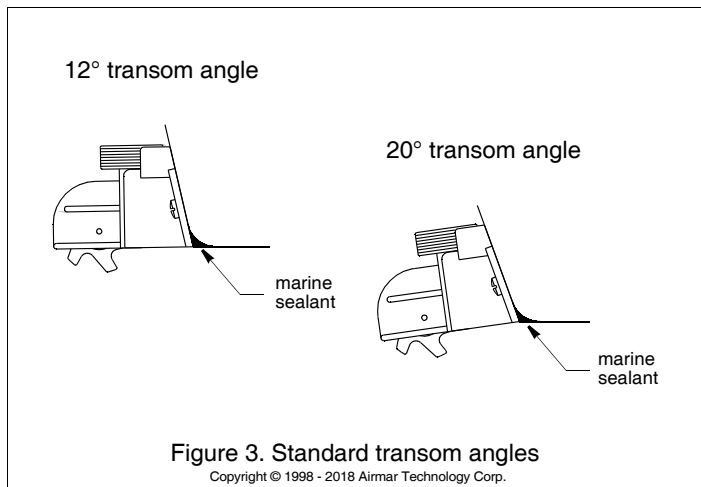
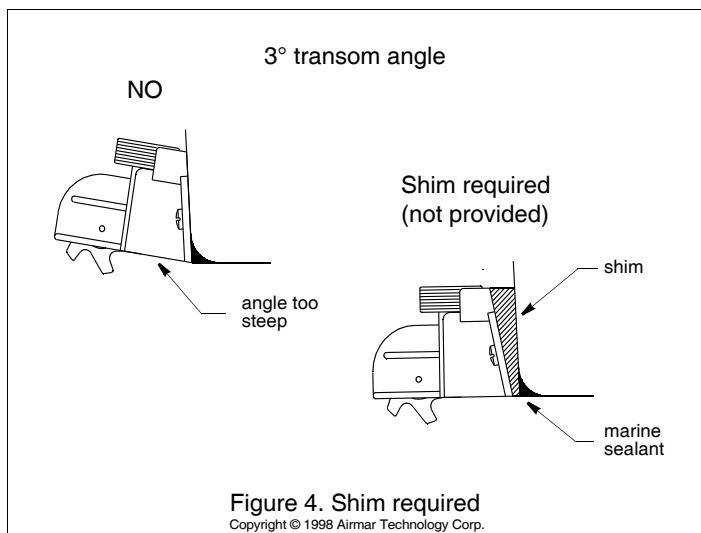

Figure 3. Standard transom angles
Figure 4. Shim required
5. The bracket is designed for a transom angle from 12° – 20° (Figure 3). For other transom angles, fabricate a custom shim from plastic, an oily wood such as teak or metal (Figure 4). Then, mark and drill the shim.
8. Fill any gap between the sensor and the hull with marine sealant using a putty knife for smoothing. This will ensure smooth water flowing over the paddlewheel (Figures 3 and 4).